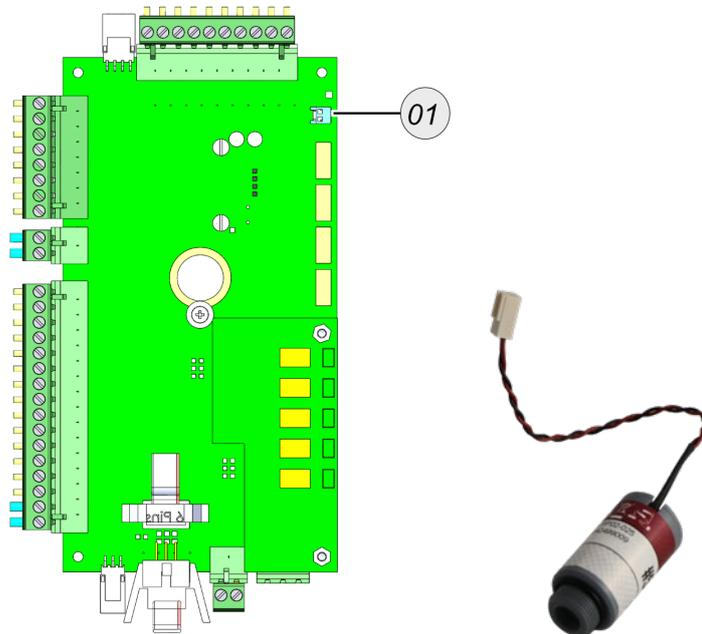

Fig. 1
- ▶ Unplug the O2 sensor to be replaced from the circuit board (Fig.1 (1)).